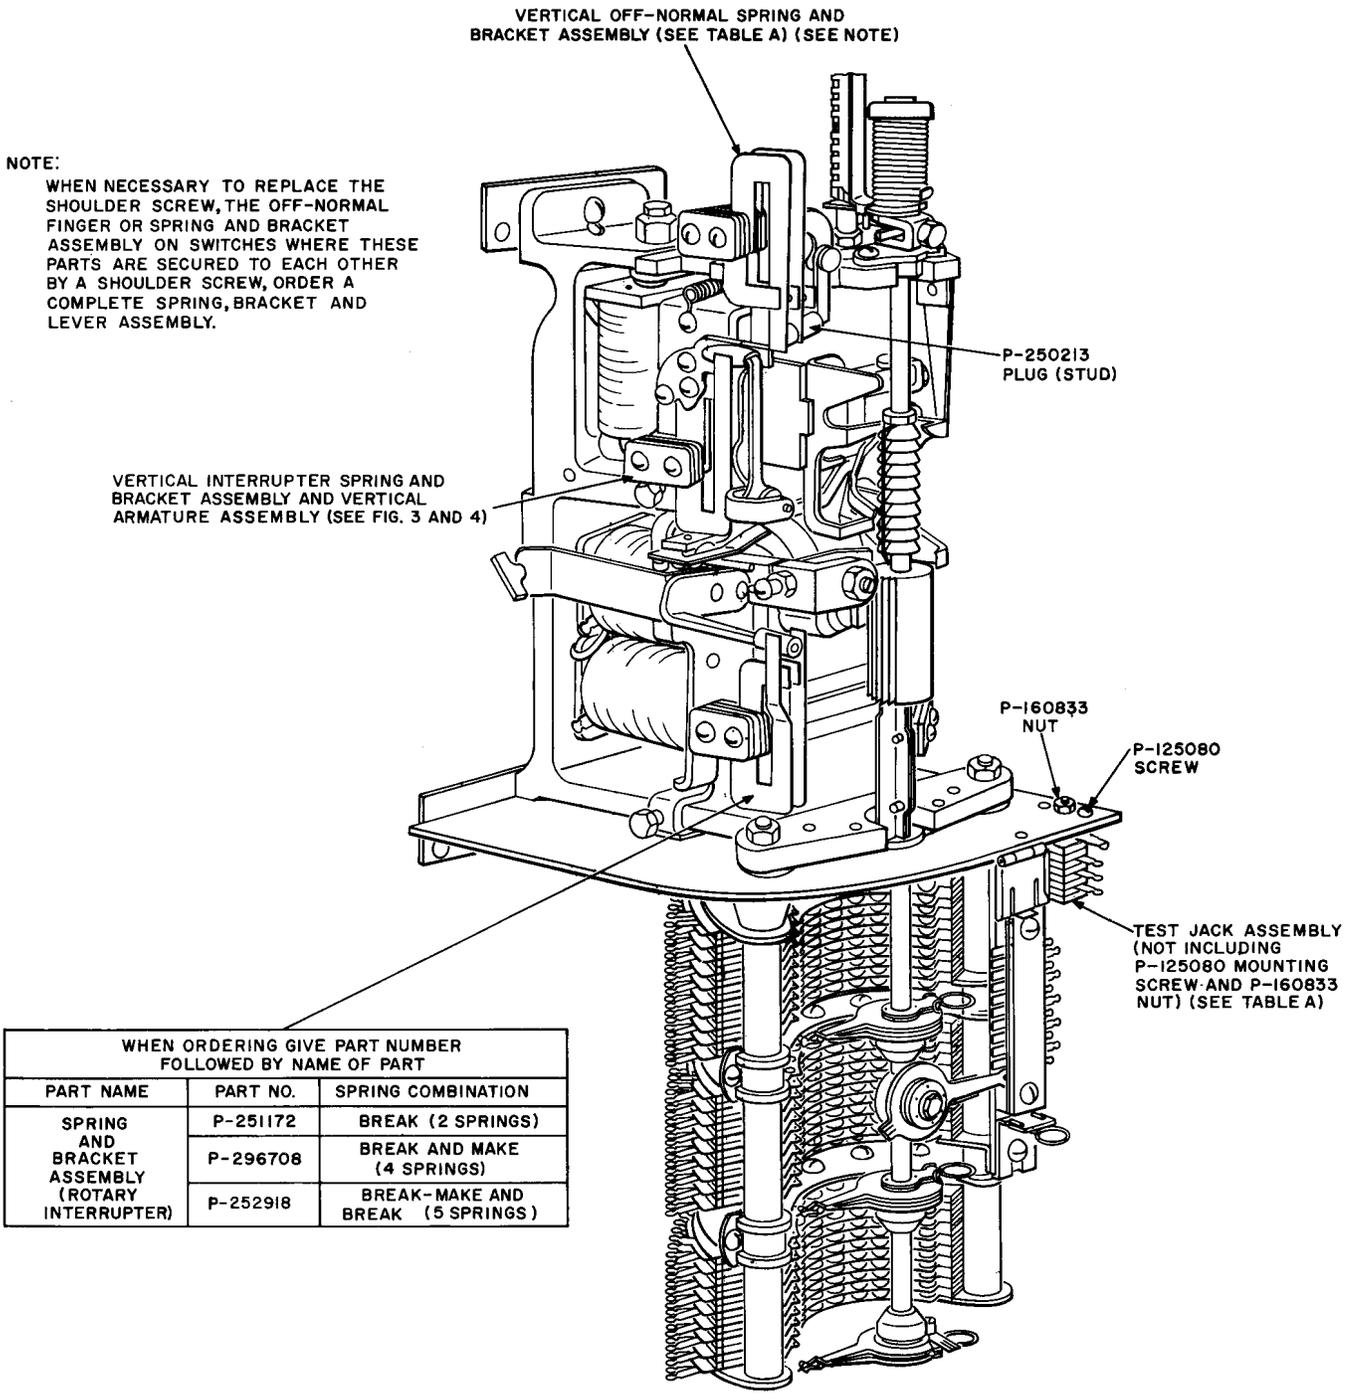

Fig. 1—Contact Spring Assemblies, Test Jack Assemblies, and Associated Parts of 197-Type Switch as Viewed From the Left Side
1.03 Part 2 of this section covers the piece-part numbers and corresponding names of the parts recommended for field replacement when performing maintenance on the switches. No attempt should be made to replace parts not designated. Part 2 also contains explanatory figures showing the different parts. (See Fig. 1 through 7 and associated notes.)